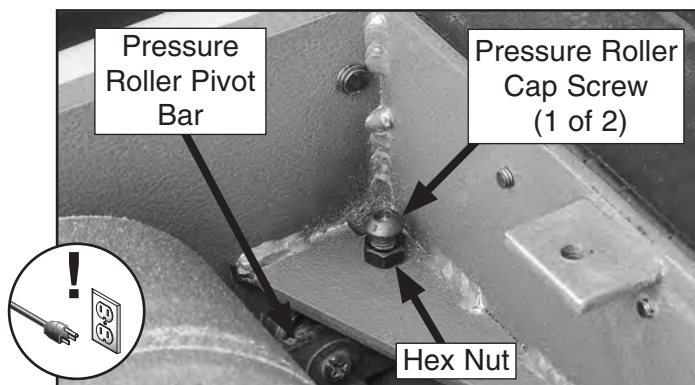

Figure 48. Rear pressure roller adjustments.
2. Loosen hex nut securing tensioner cap screws on both ends of rear pressure roller shown in **Figure 48**.